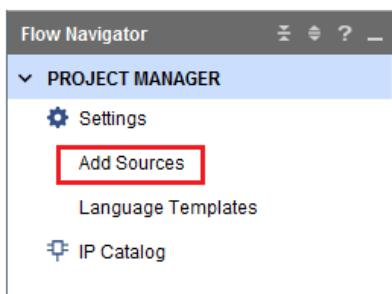

Figure 2.28: Add Sources command
8. In the Vivado **Flow Navigator** click the **Add Sources** command, see Figure 2.28.